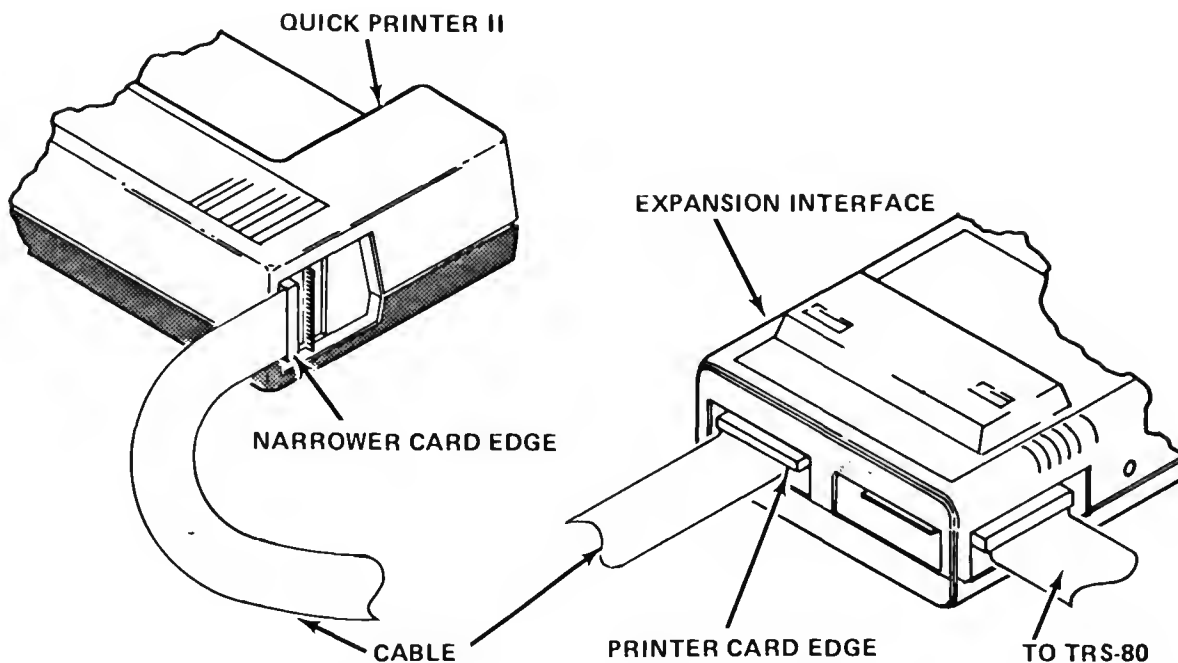

Figure 4. Connection to TRS-80 Expansion Interface
5. Notice there are two card-edges at the back of the Printer. Connect the special Quick Printer II/Expansion Interface cable to the narrower of these two card-edges, as shown in Figure 4. Be sure the flat cable exits from the left of the card-edge connector.
6. Connect the other end of the special cable to the Line Printer card-edge, making sure the flat cable exits from the bottom of the connector. See Figure 4.